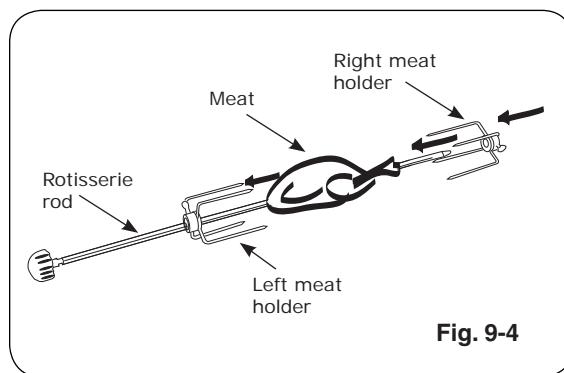

Fig. 9-4
3. Slide left meat holder into position on rotisserie rod as shown in Fig. 9-4 and tighten screw.
4. Slide meat onto rod and into holder (Figs. 9-4).
5. Slide right meat holder onto rod and into meat (Fig. 9-4). Tighten thumb screw.